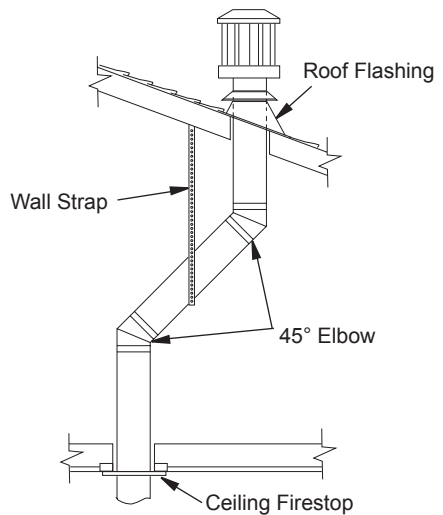

Figure 17 - Offset with Wall Strap and 45° Elbows
1. Determine route your vertical venting will take. If ceiling joists, roof rafters or other framing will obstruct venting system, consider an offset (see Figure 17) to avoid cutting load bearing members. *Note: Pay special attention to these installation instructions for required clearances (air space) to combustibles when passing through ceilings, walls, roofs, enclosures, attic rafters, etc. Do not pack air spaces with insulation. Also note maximum vertical rise of venting system and any maximum horizontal offset limitations.*
*Note: If an offset is needed to avoid obstructions, you must support vent pipe every 3 feet. Use wall straps for this purpose (see Figure 17). Whenever possible, use 45° elbows instead of 90° elbows. The 45° elbow offers less restriction to the flow of flue gases.*
5. Place flashing over pipe section(s) extending through roof. Secure base of flashing to roof and framing with roofing nails. Be sure roofing material overlaps top edge of flashing as shown in Figure 17. There must be a 1" clearance from vent pipe to combustible materials.